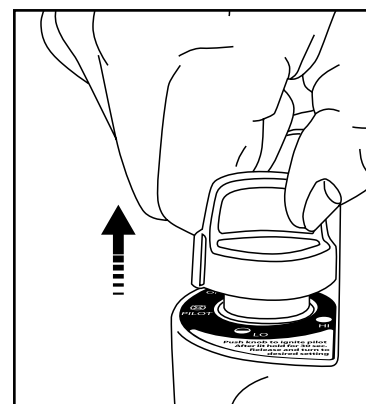

Figure 4: Release knob.
- After pilot lights, hold down for 30 -60 seconds and then release knob. Knob should return to fully extended position; see Figure 4. To operate heater slightly depress
- After pilot lights, hold down for 30 -60 seconds and then release knob. Knob should return to fully extended position; see Figure 4. The pilot should remain lit. To operate heater slightly depress knob and gently turn to lock in the "HI" position to light burner tile. Leave on "HI" position until burner tile turns bright orange.